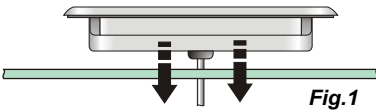

Fig.1
Step 1 - Insert the wi-fi module cable connector (MODULE “CO”) into the empty connection on the system circuit board marked “CO” (Fig.1)
Step 1 - Clean area and insert spaside control. (Fig.1)